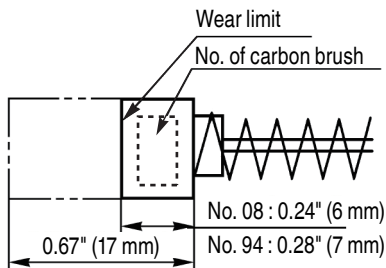

Fig. 17
- Inspecting the carbon brushes: (Fig. 17)
Use metabo HPT carbon brush No. 08 and No. 94 indicated in Fig. 17.